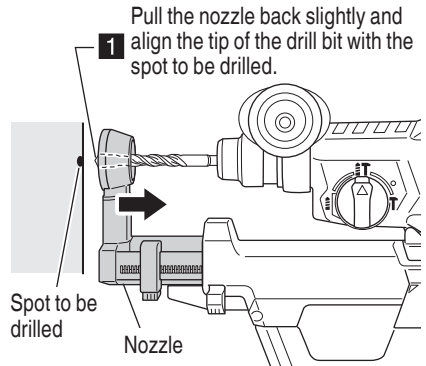

Fig. 16
- (1) Grasp the nozzle with your hand and pull it back slightly, and align the tip of the drill bit with the spot to be drilled. (Fig. 16)